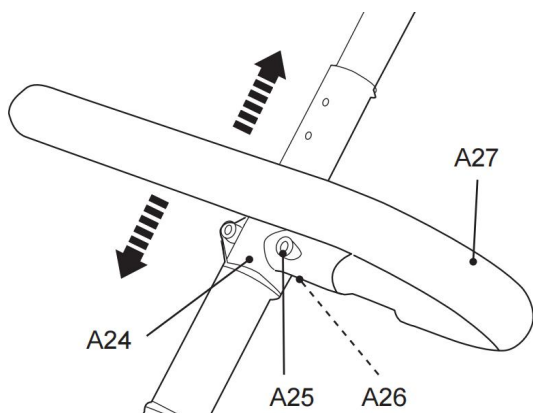

Fig. 35
2. Slide the bracket (A24) up or downward to one of the three positions until the mounting holes are aligned (Fig. 35).